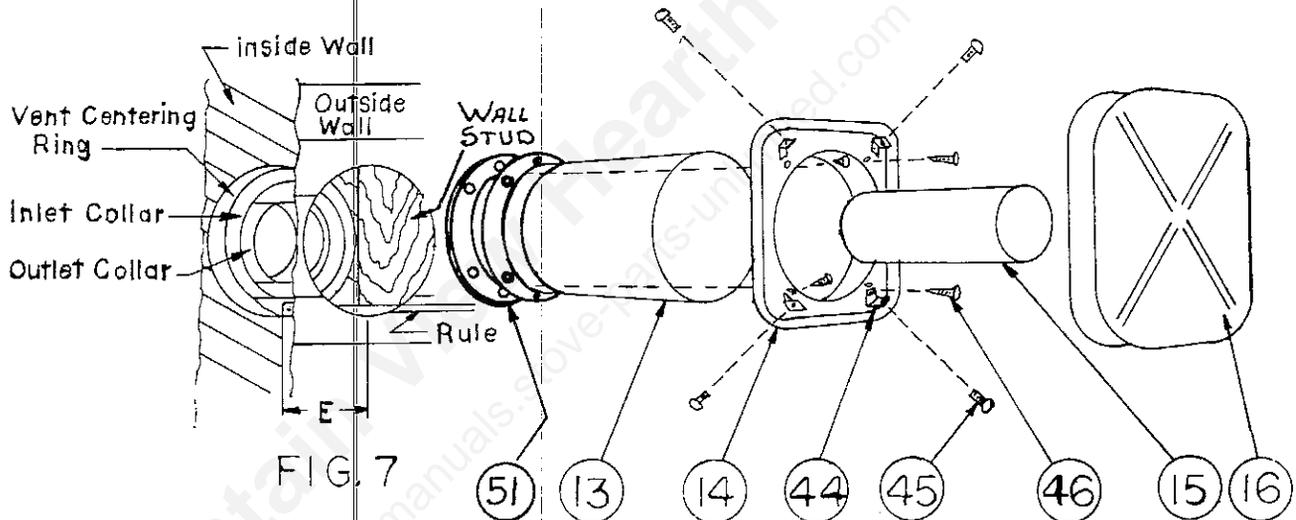

FIG. 7
7. Press wall plate collar (14) into air inlet extension and secure wall plate to wall with four wood screws (46) from parts bag (Fig. 7).
8. Press flue outlet extension (15) over flue outlet collar (Fig.7).
9. Press vent plate collar (16) into flue outlet extension (15) and secure wall plate (14) to vent plate assembly (16) with self-tapping screws (45) through plate brackets (44), (Fig. 7).